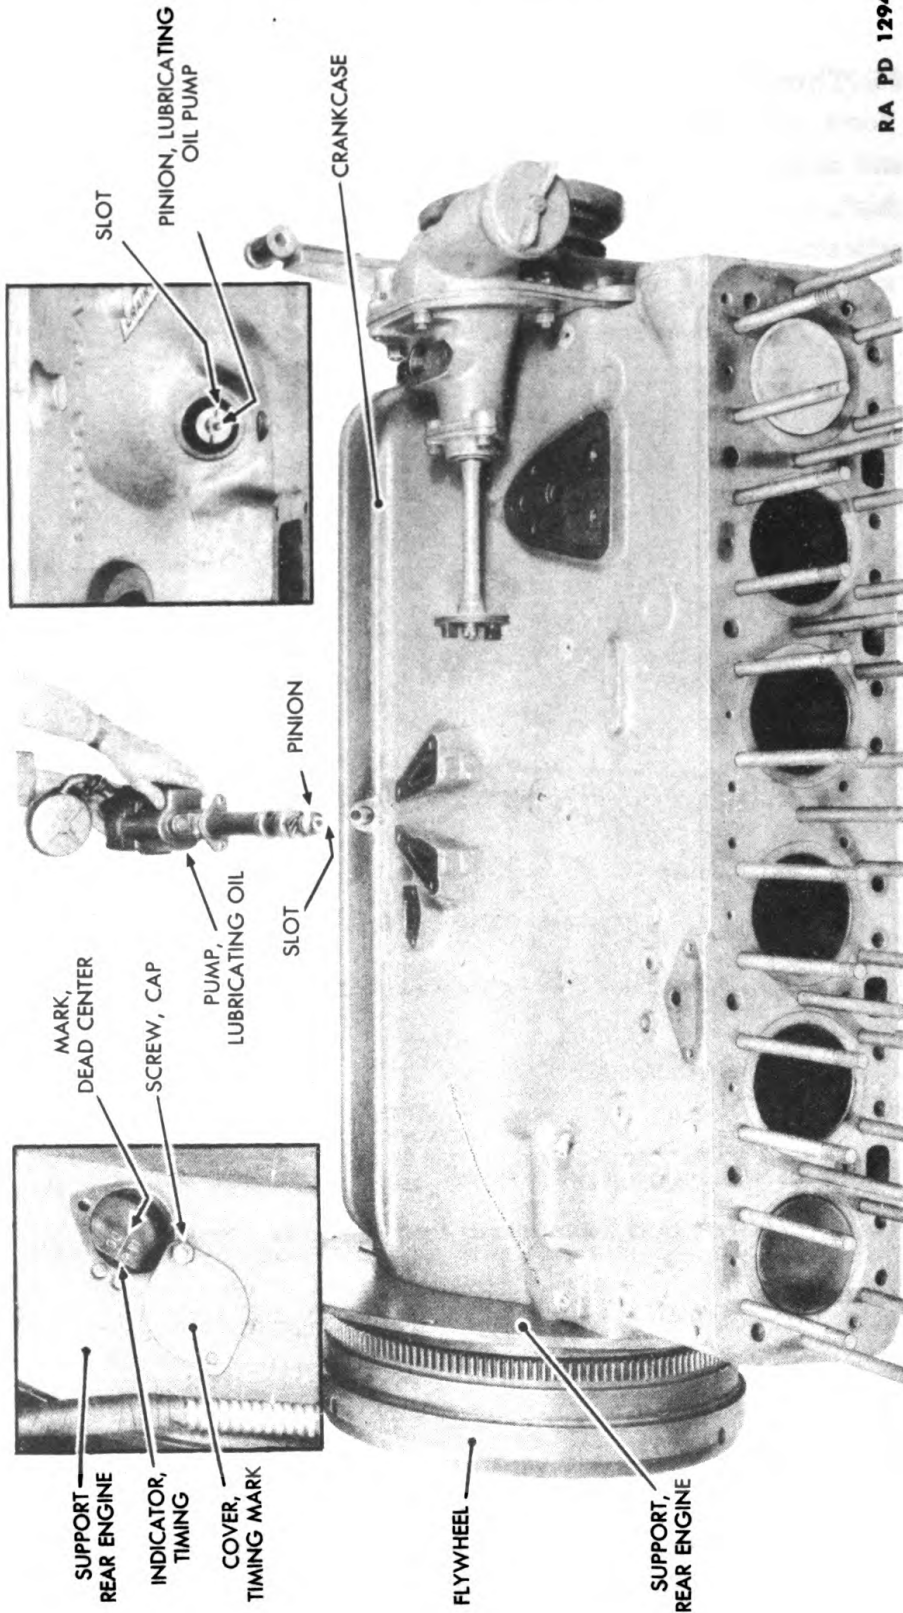

Figure 169 — Lubricating Oil Pump Installation
(2) INSTALL PUMP (fig. 169).
pointing in the opposite direction and the piston is on top dead center, it will be on the exhaust stroke and the timing would be incorrect in this position (fig. 169). When holding pump in position for installing, position the slot in the pinion so it will be toward the rear of the crankcase (slot off center) and in a nearly vertical position so that when it engages the gear on the camshaft it will turn in a clockwise direction and be almost parallel with the crankcase and toward the camshaft. Check slot position by looking into distributor opening from top of crankcase (fig. 169).